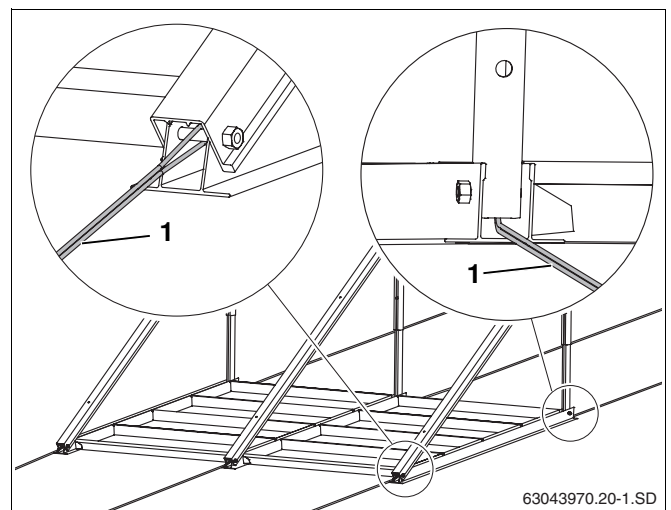

Fig. 28 Flat roof support with ropes
- Fasten each collector on site to the screw on the lower profile and to a suitable point on the roof, using at least 2 wire ropes (Fig. 28, **Item 1**).